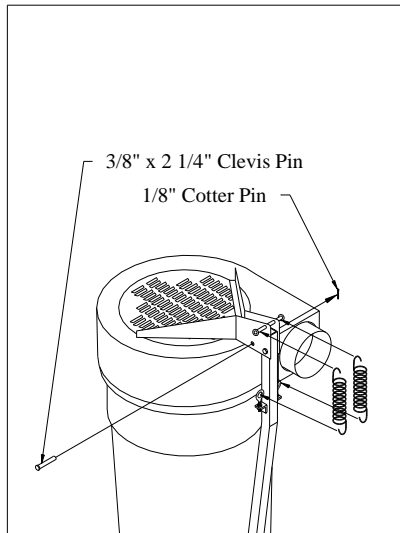

Fig. 11
9. Pivot top assembly back until the springs (9) can be attached to upper spring retainers on top support and to the eyebolts on vertical support installed in step 6. Once springs are attached pull top assembly down onto container and immediately slip 3/8" x 2 1/4" clevis pin through locking hole in top support and secure with 1/8" cotter key. This locking pin will not allow top to rotate all the way around and allow the springs to come off. Rotate container until container latch (18) lines up with a handle on container (19) and secure latch by locking it over handle. Note: latch may have to be adjusted to be tight on handle. Once achieved, tighten bolts in vertical support (7) and vertical support brace (27). **Fig. 11**